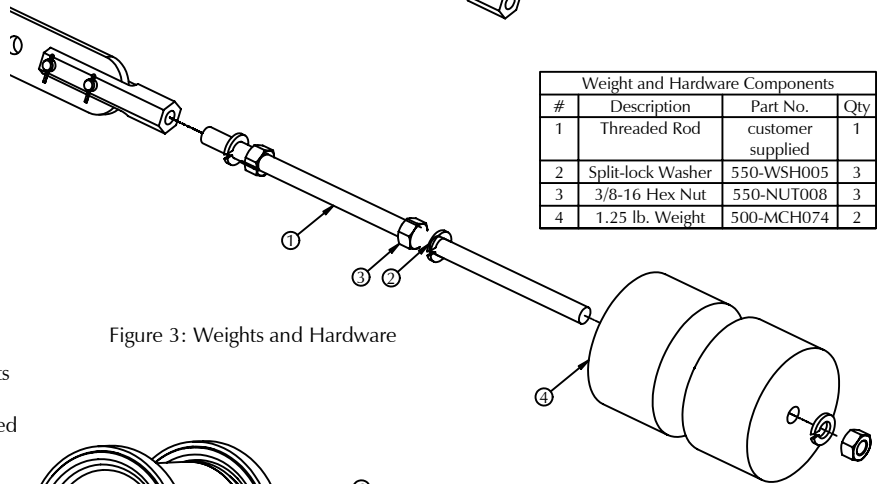

Figure 3: Weights and Hardware
2. Assemble the weight and hardware (figure 3).